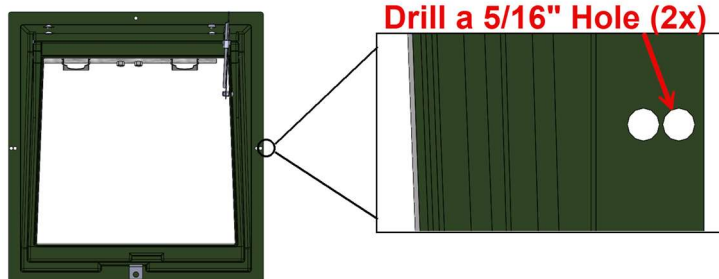

Figure 2
7. Drill one 5/16" hole on each side of the cabinet using the locations shown in Figure 2. The holes should be positioned immediately outside the existing pre-drilled side mounting holes.